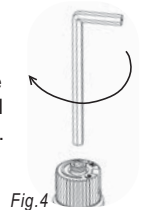

Fig. 4
- 15) Using the Allen wrench as shown in Fig. 4, rotate the screw clockwise until snug, do not overtighten.